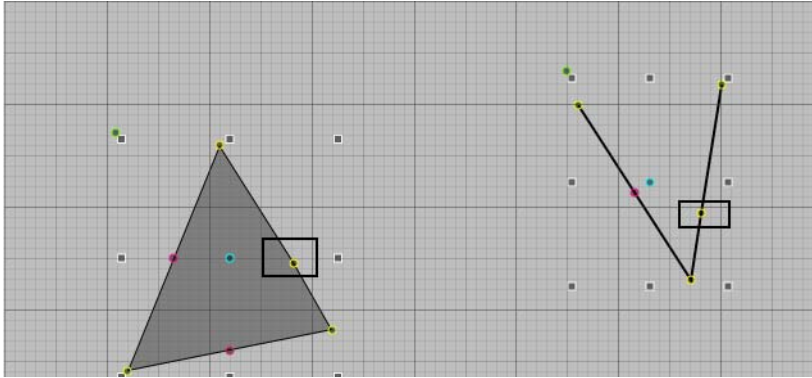

Figure 13. Adding a new point to a polygon/polyline
3. Select **Add Point** from the context menu. A yellow colored circle appears on the line where a new point is added (see Figure 13).
3. Select **Delete Point** from the context menu (see Figure 13).